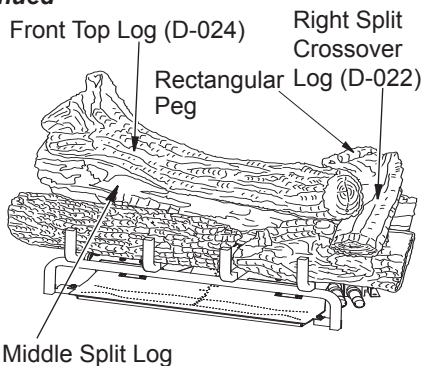

Figure 30 - Installing Front Top Log
- Find the front top log (D-024). See Figure 30. The left end of this log has a square hole that fits over a square peg that is on the top of the middle split log. The right end of this log rests against the knot on the top of the front right log and also rests on top of the right split crossover log.